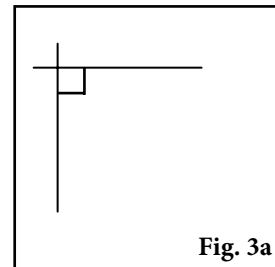
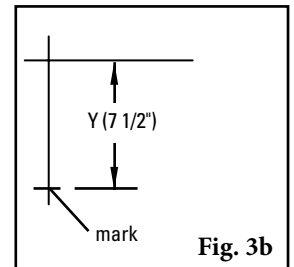
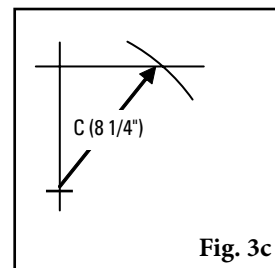

Fig. 3a
Fig. 3b
Fig. 3c
- Determine final dimension.** On a flat vertical surface, using a level, draw one horizontal line and one vertical line creating a right triangle (Fig 3a). Measure down from the intersection the determined “Y” dimension and mark (Fig 3b). With the tape measure starting at the modified “Y” mark, swing the tape across the “X” line and mark at the “C” dimension where it crosses the “X” line (Fig 3c). Measure from the intersection to the “C” intersection and this will be your new “X” dimension (Fig. 3d).